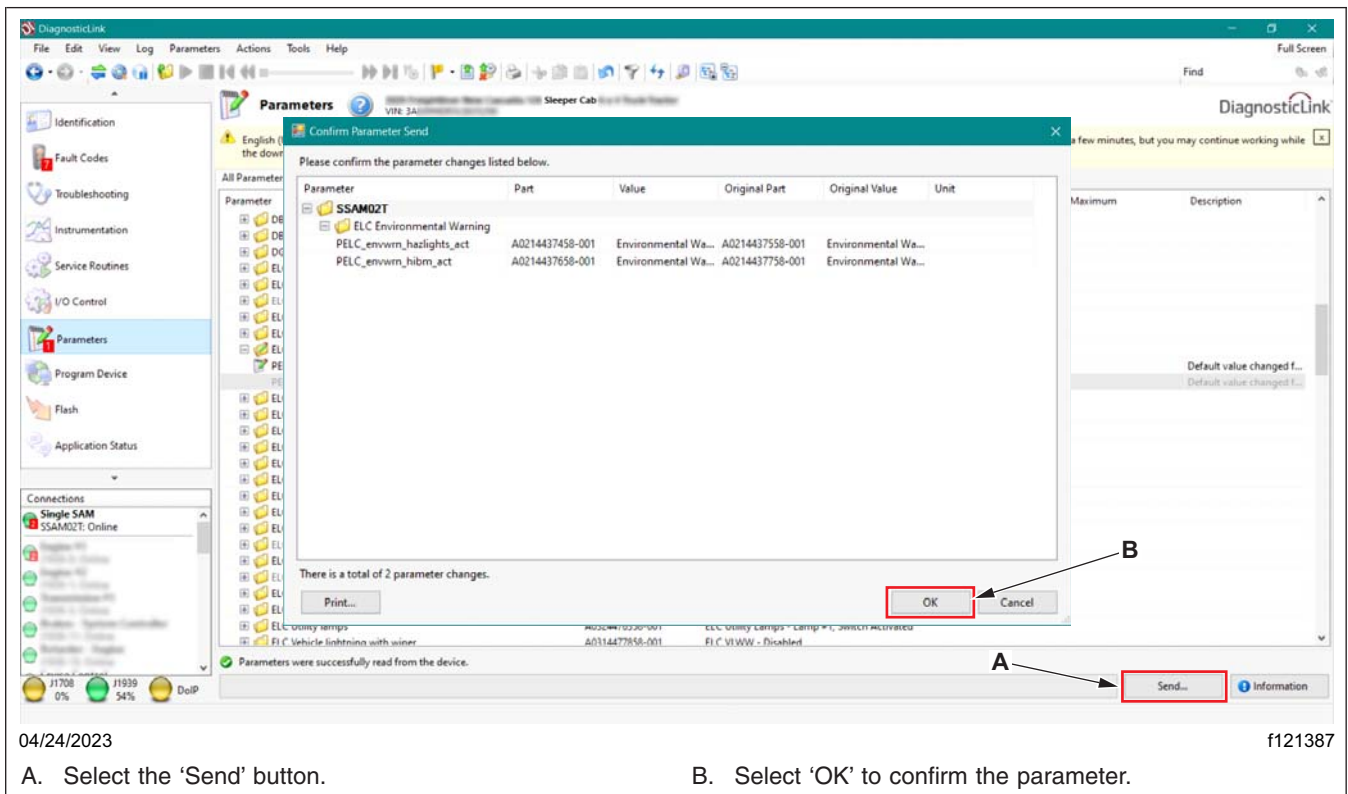

Fig. 5, Writing the Parameter Changes to the Vehicle
10. Select the 'Send' button to write the parameter changes to the vehicle. A window will open asking to confirm the parameter changes. Select 'OK.' See Fig. 5.